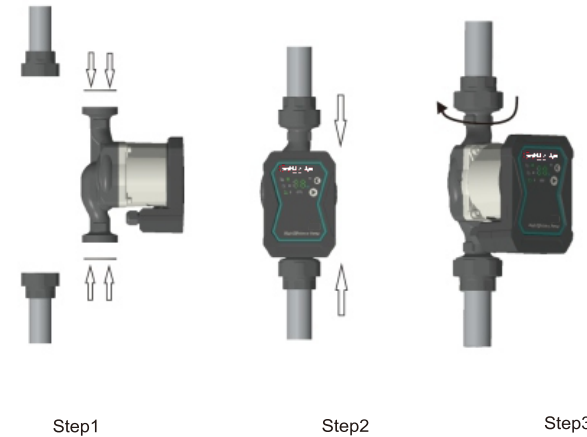

Figure 1
1. When installing the pump in the pipeline, it needs to install the two sealed gaskets provided.(as steps in Figure 1)